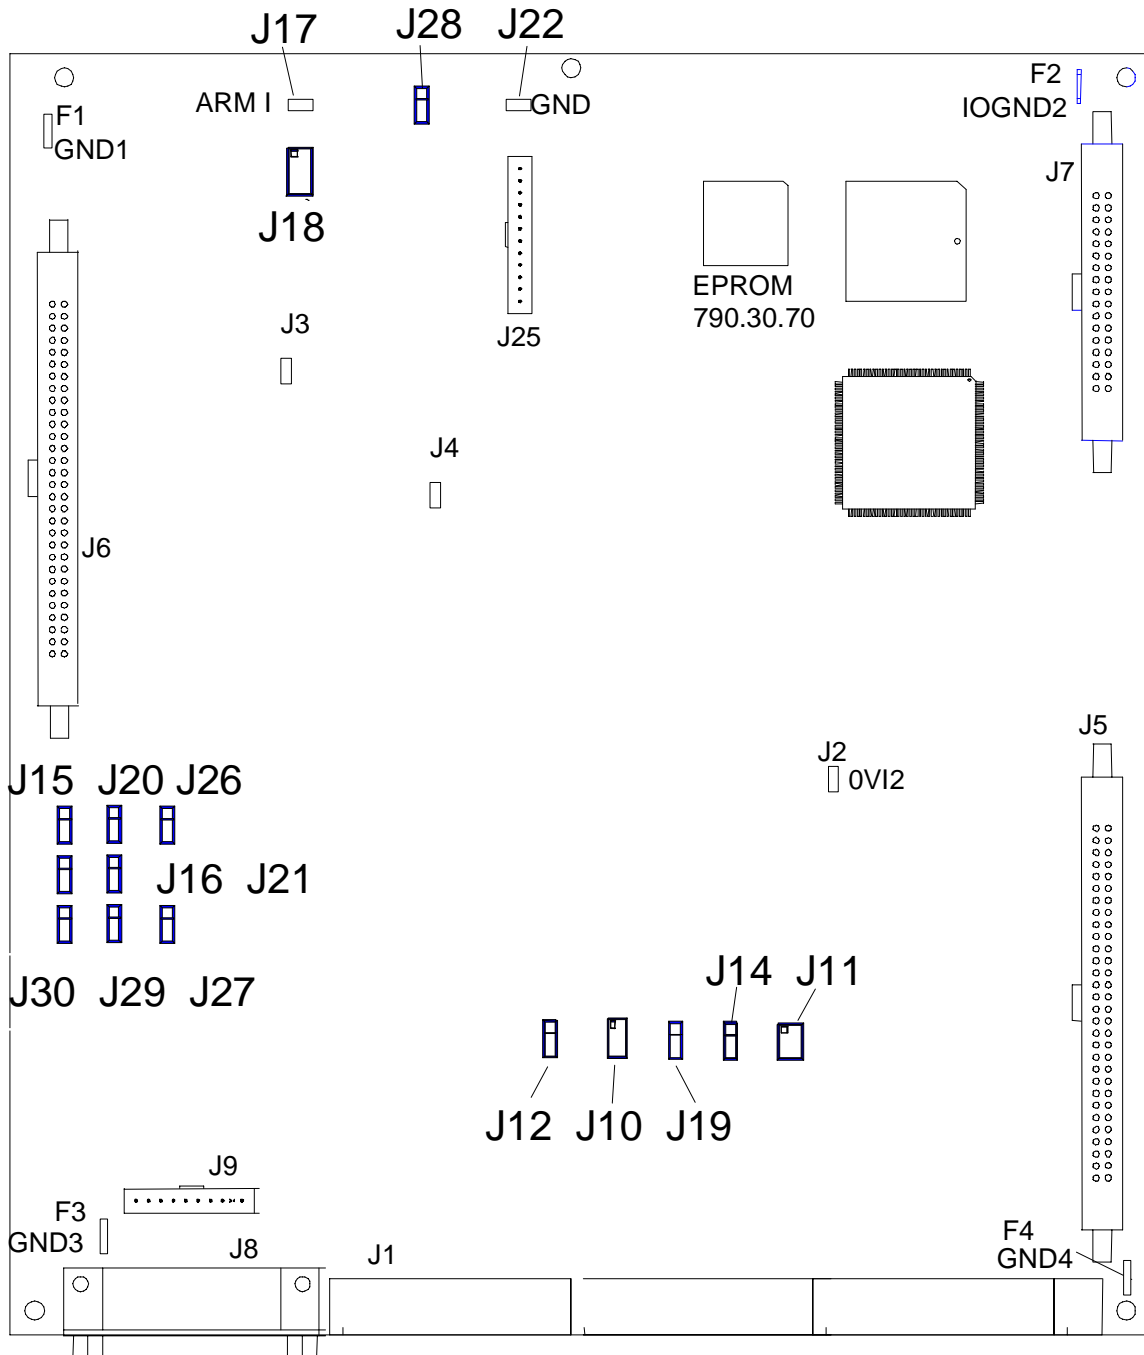

Figure 4.1 - Regulator Board Jumpers, Connectors and Test Points
3. The jumpers are located on the regulator board. See Figure 4.1 for jumper locations